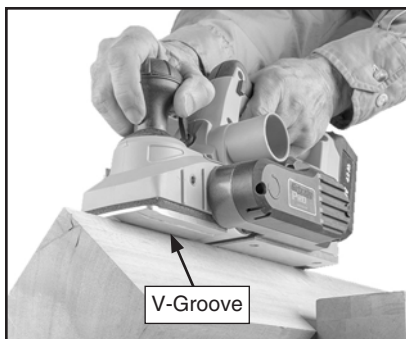

Figure 19. Workpiece edge aligned with V-groove.
4. Set desired front shoe V-groove flush with edge of workpiece (see **Figure 19**). Cutterhead should not contact workpiece.